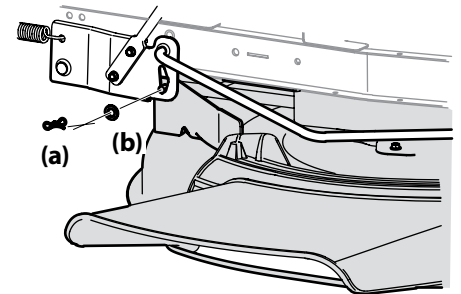

Figure 4-5
3. Remove the bow-tie cotter pin (a) and flat washer (b) from the deck lift assembly, and retain for reinstallation later. See Figure 4-5.